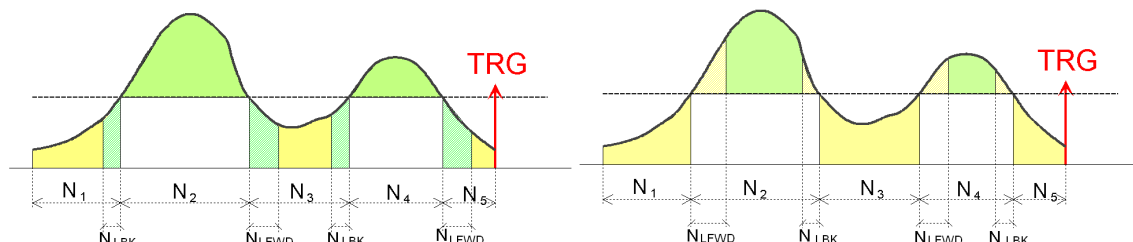

Fig. 7.9: Example of non-overlapping N_{LBK} and N_{LFWd} in case of positive logic (left) and negative logic (right).
1. In the simplest case N_{LBK} and N_{LFWd} **do not overlap**. Fig. 7.9 reports the case of positive logic on the left, and negative logic on the right. The green areas correspond to the over threshold samples, while the yellow ones correspond to the under threshold samples: